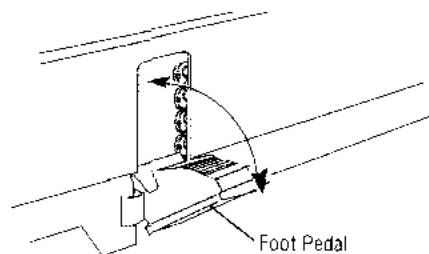
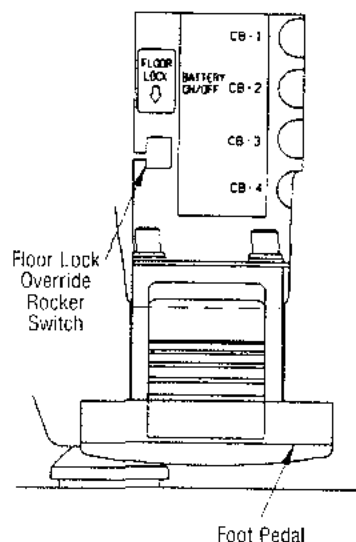

Figure 5-2. Foot Pedal
Figure 5-3. Floor Lock Override Switch
1. Flip foot pedal down (see Figure 5-2).
A floor lock override switch is located inside the manual pump pedal recess (see Figure 5-3). Flip the pedal down to access the switch (see Figure 5-2).